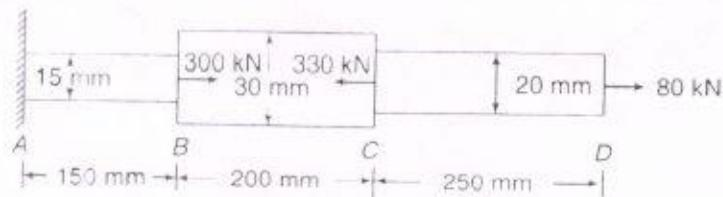

Fig. 1
Q.1. B A steel circular bar has three segments as shown in Fig. 1. **Determine**